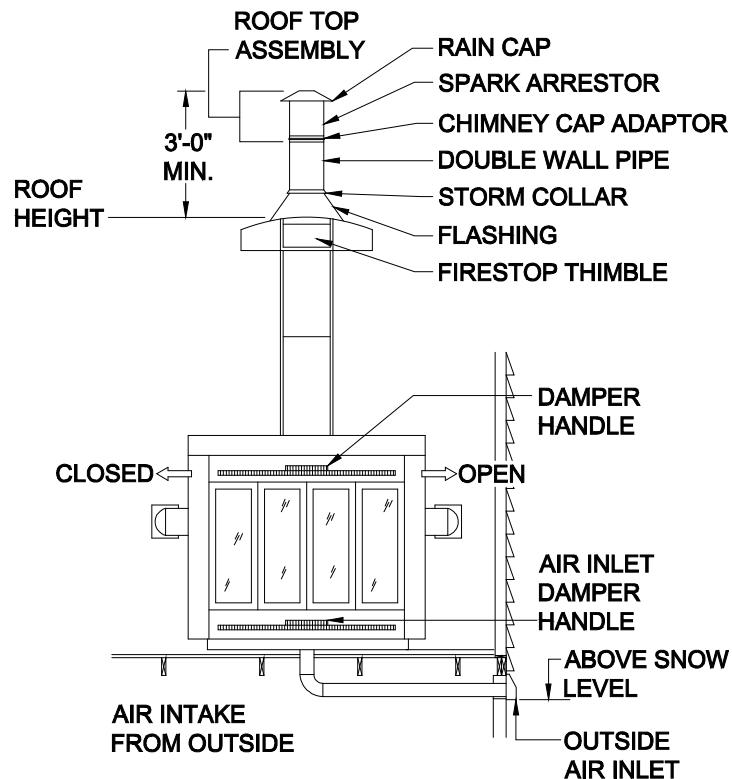

Figure 69. Chimney and combustion air intake duct installation
- 2. Install chimney pipe.** Assemble and seal the chimney per the fireplace or wood stove manufacturer's installation instructions and if there is a conflict between the instructions and the figure, follow the instructions. To assure sufficient draft for proper operation, extend the chimney at least three feet above the highest point where it penetrates the roof and at least two feet higher than any surface within 10 feet of the chimney (**Figure 69**). Use additional section(s) of chimney pipe (not provided) if required by local code or if the site has obstructions within 10 feet of the chimney.